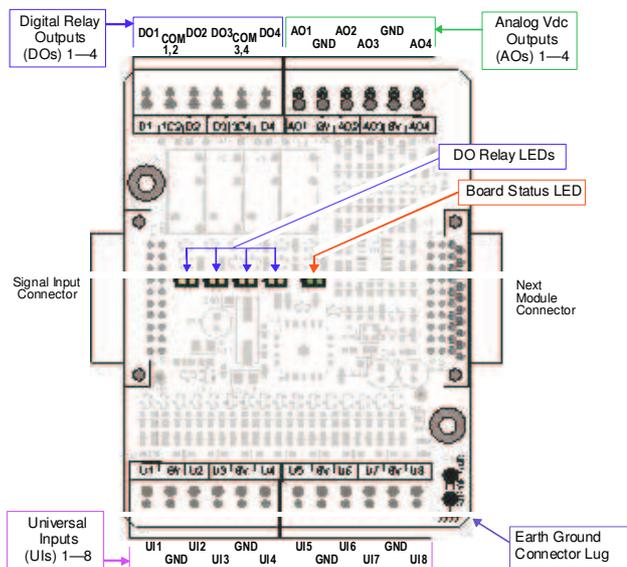

**Fig. 1. CLAXHAWKIO16 module mounting details**
- Step 2** Position the CLAXHAWKIO16 on the rail, tilting to hook DIN rail tabs over one edge of the DIN rail (Figure 1).
- Step 6** To keep the final assembly together, secure at both ends with DIN rail end-clips provided by the DIN rail vendor. This also prevents the assembly from sliding on the DIN rail. See Figure 1.
**Note** To remove a CLAXHAWKIO16 module from DIN rail, slide it away from other modules. Insert a screwdriver in the center plastic locking tab and pull downwards, then lift the unit outwards. You may need to first remove an I/O connector plug, as shown at the top of Fig. 1.